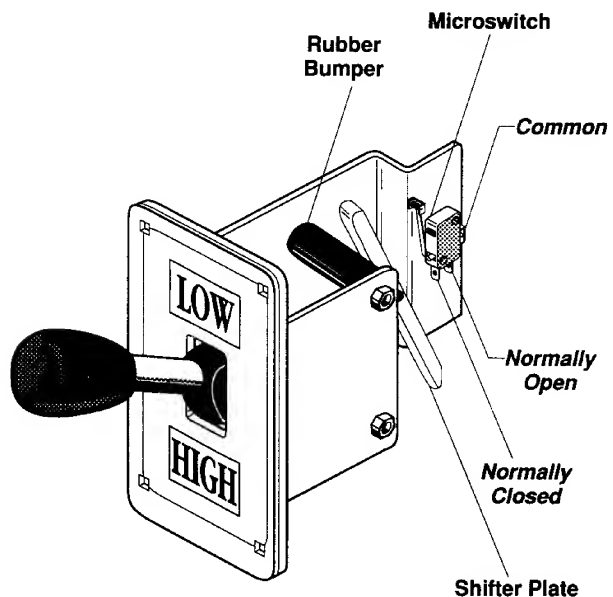

Figure 3-4 Repairing the Gear Shift
2. Disconnect the wires to the switch on the gear shift. See Figure 3-4.